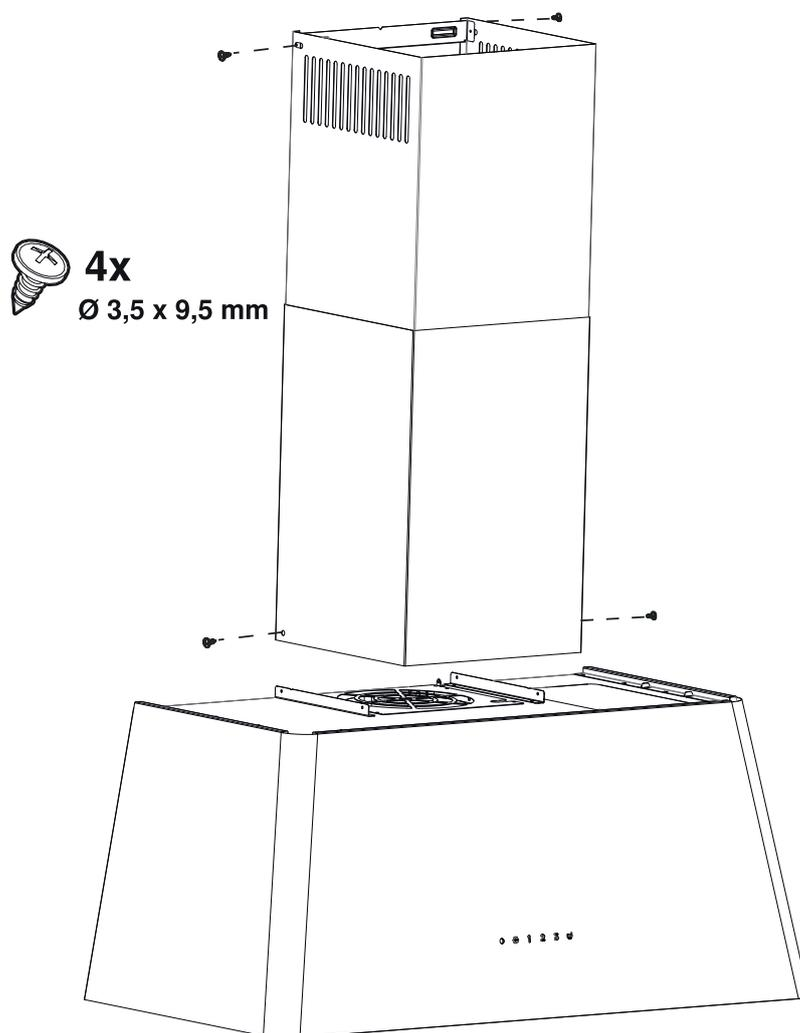

Fig. 18
2. ➤ There is a tab in the middle of the flue connection plate. Place the middle point of this tab on the line that is drawn perpendicular to the wall. Align horizontally and mark the holes where the connection plate will be mounted via a pen (Fig. 18/a).